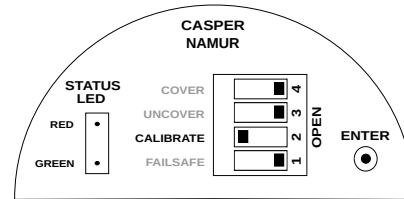

Figure 13: Calibration Switch Position
- To start the calibration process, set the CALIBRATE switch to CLOSE (Opposite of OPEN in a DIP switch) position as shown in Figure 13.
- Set the CALIBRATE switch to CLOSE (Opposite of OPEN in a DIP switch) position as shown in Figure 13.